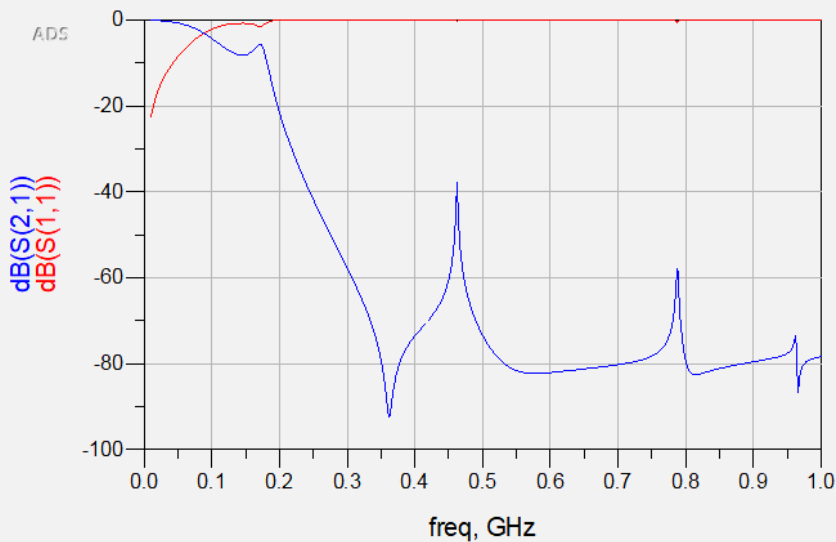

Figure 43.  $S(1,1)$  and  $S(2,1)$  plot for emModel with discrete components
7. In the data display, insert a rectangular plot to observe  $S(1,1)$  and  $S(2,1)$  as shown in Figure 43.